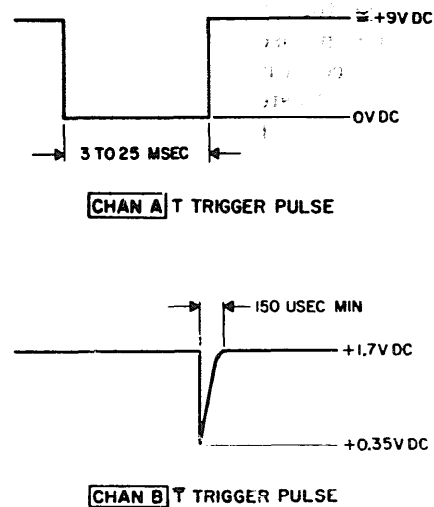

Figure 3-9. Trigger pulse T and T waveforms
1. Rotate test panel E V/H control fully counterclockwise to 0. Observe waveforms shown in figure 3-9.